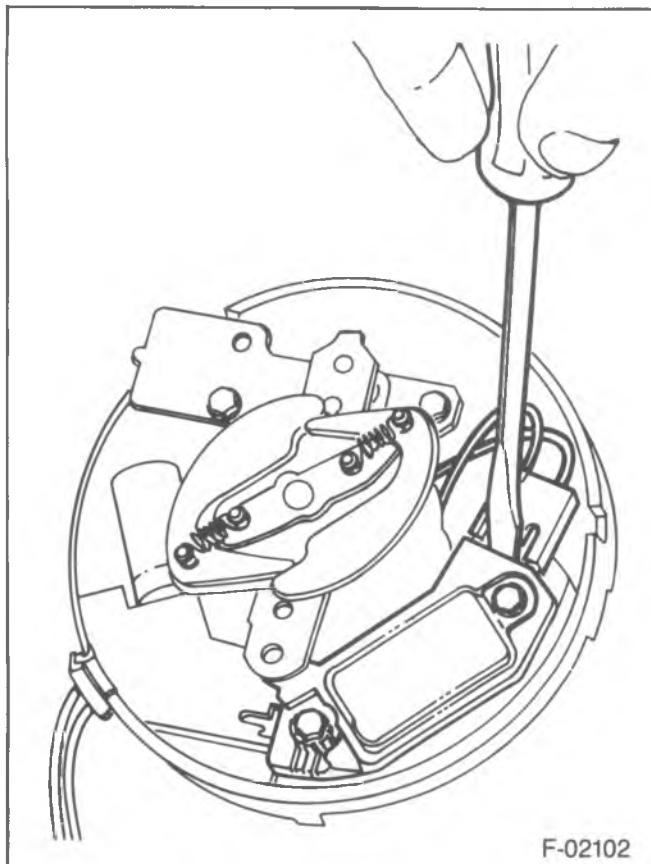

Figure 49—Removing the Pickup Coil Connector
17. Pickup coil connector from the module (figure 49).